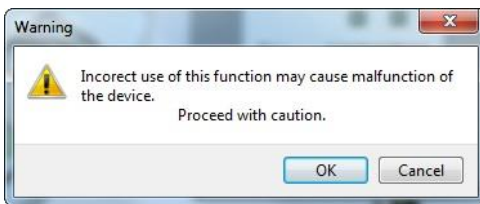

Fig. 30 Warning.
2. Warning: Select OK to start update (Fig. 30).